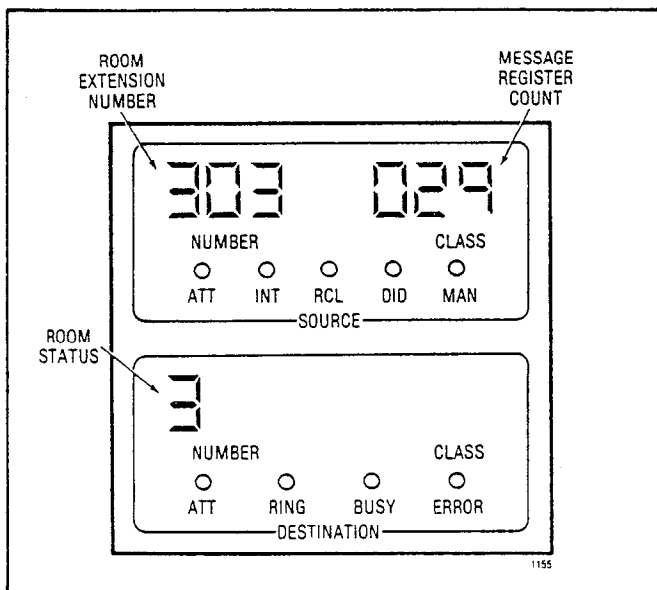

Fig. 4-2 Typical Status Display
- The display of the status of each room can be given in respect to whether it is occupied (rented) or vacant, and whether it is clean or requires cleaning. In addition, the display indicates whether the maid is in the room. This display is accomplished by pressing the GUEST ROOM button and dialing the room number. Fig. 4-2 shows a typical room display with status "3", indicating that the room is vacant but requires cleaning. If a period (.) appears after the status code it indicates that a maid is currently in the room. Having pressed the GUEST ROOM button, and dialed a room number, the attendant can update the room status by dialing a special code. See Table 4-1. This provides the attendant with a view of a room's status.
- Message registration can be provided for each room. This feature keeps count of all local calls made from a room. Flexible charging allows the Message Register to be tailored to an individual hotel's needs. By pressing the GUEST ROOM button and entering the room number, the room number and message "count" is displayed in the SOURCE display. The "count" can be read on checkout for charging purposes; then under the same conditions the register is cleared by pressing the "#" button. Fig. 4-2 illustrates a typical display of this facili-
Attendant uses GUEST ROOM button and dials room number to obtain a DESTINATION display (see 4.04 and Fig. 4-2). (digits 1-4 are shown with a period if the maid is in the room).
- (1) The room number and the "Message Register" status (Fig. 4-2) in the SOURCE display.
- (2) "Room Status" indicated by a digit (followed by "." if the maid is in the room) in the DESTINATION display (Fig. 4-2)
- (3) The "Do Not Disturb" status (indicated by DO NOT DSTB lamp)
- (4) The "Message Waiting" status (indicated by MSGE WAIT lamp)
- (5) The "Controlled Outgoing Restriction" status (indicated by ROOM RESTR lamp)